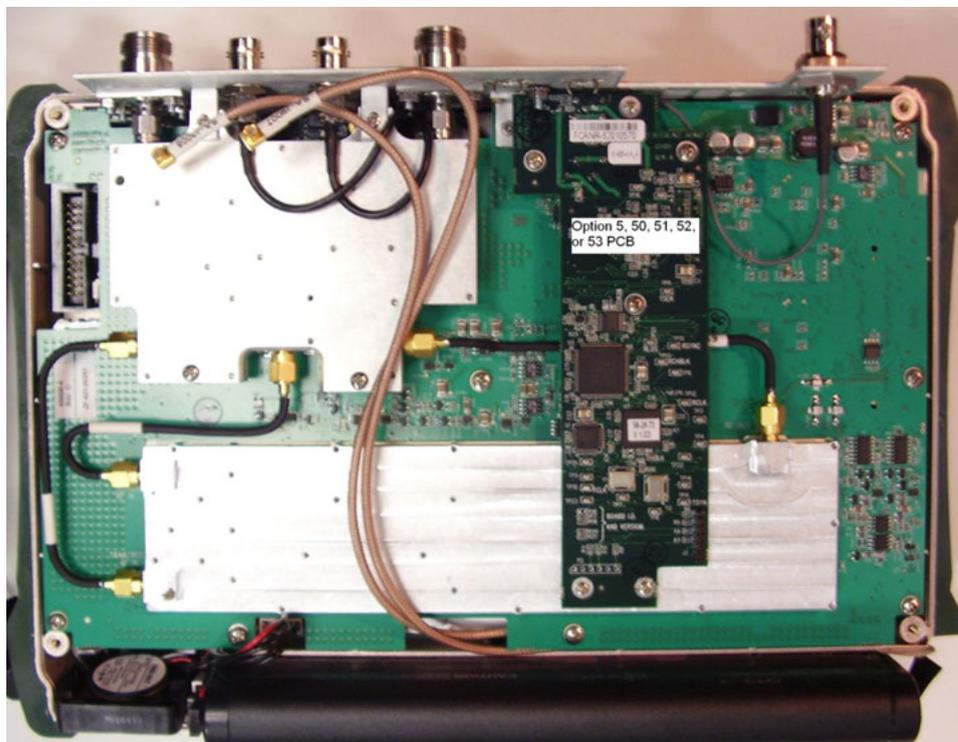

Figure 3-8. VNA Module
1. The VNA module, Main PCB, and LCD are mounted together (in that order) and mounted to the case top cover. To continue with disassembly, the VNA module must first be disconnected from the Main PCB (refer to Figure 3-8).
4. After removing the Option 5 PCB, use a 7 mm wrench to hold the standoffs under the 7 mounting screws that attach the VNA board. Remove all 9 screws that are holding the VNA module to the Main PCB (refer to Figure 3-8).